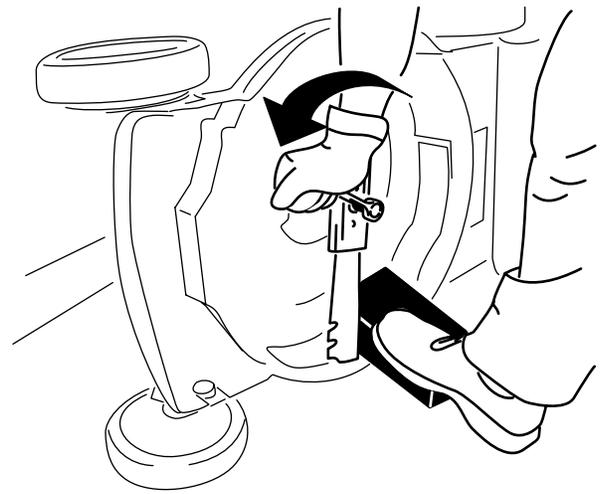

Figure 23
2. Use a block of wood to hold the blade steady (Figure 23).
3. Remove the blade, saving all mounting hardware (Figure 23).